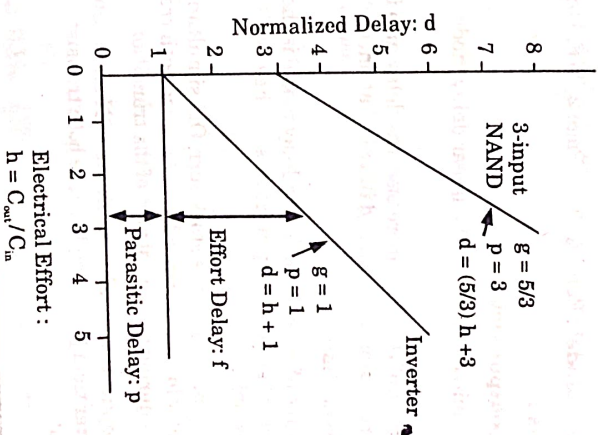

Fig. 2.12.1. Normalized delay vs fanout.
5. Fig. 2.12.1 plots normalized delay t_{pd} electrical for an idealized inverter and 3-input NAND gate.